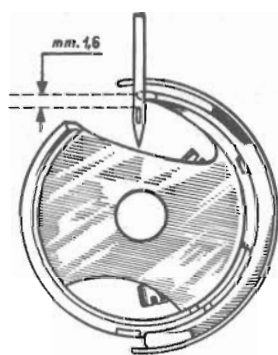

Fig. 10
In this position the rotating point of the hook should be 0.1 mm. from the needle (Fig.11) and right on its cross section line (Fig.10).
- rotate the hook until the point is on the cross section line of the needle (Fig.10),
- hole is approximately 1.6 mm. (Fig.10),